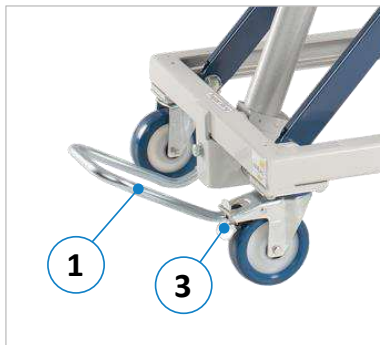

Figure 6: Foot bar and brakes
Before moving the lift table, release the two brakes (3) on the long side (see ⇒ Figure 6 on next page). Afterwards, it can be moved to the desired location. Before starting to work, lock the two brakes (3) again.